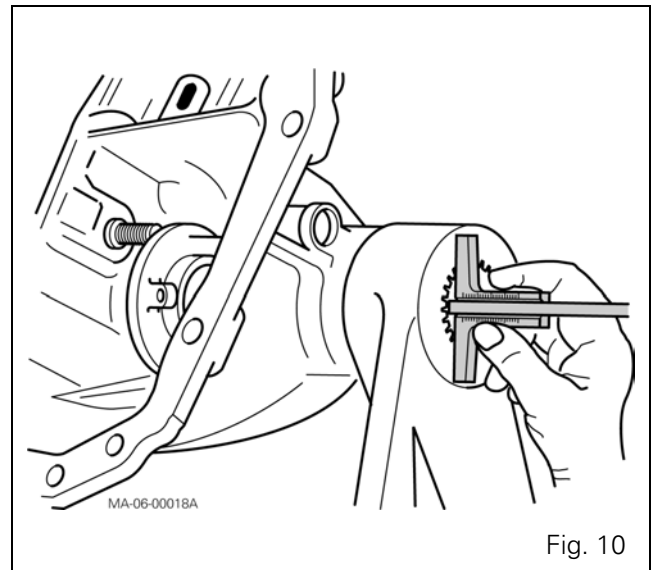
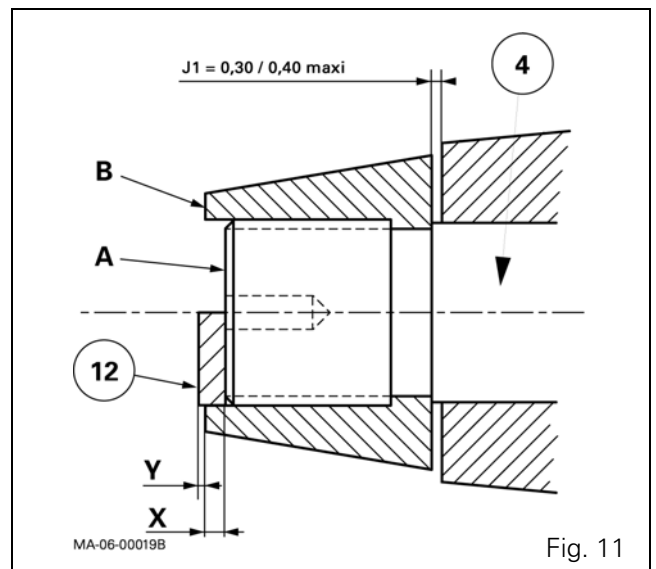

Fig. 10
Fig. 11
36. Carry out shimming of the shaft (4) (Fig. 11) to obtain end play:
37. Tighten the screw to position the lift arms (5) and (11) correctly on the shaft.
38. Measure the distance between face "A" of the shaft and face "B" of the arm using a depth gauge (Fig. 10 and Fig. 11).
39. By measuring dimension "X", determine the thickness of shims "Y" needed to obtain (Fig. 11):
40. Fit the shims (12) selected previously (Fig. 11), the washer (1), the lockwasher (3) and the screw (2).
41. Tighten the screw (2) to a torque of 360 - 470 Nm.